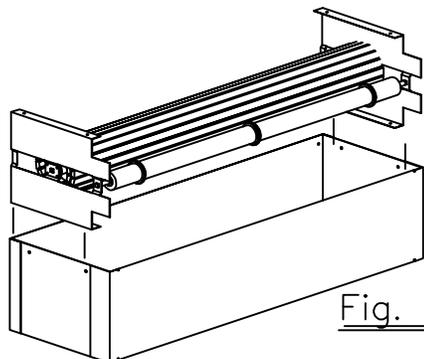

Fig. 7A
7. Place assembled door back into the metal housing. (Fig. 7A)